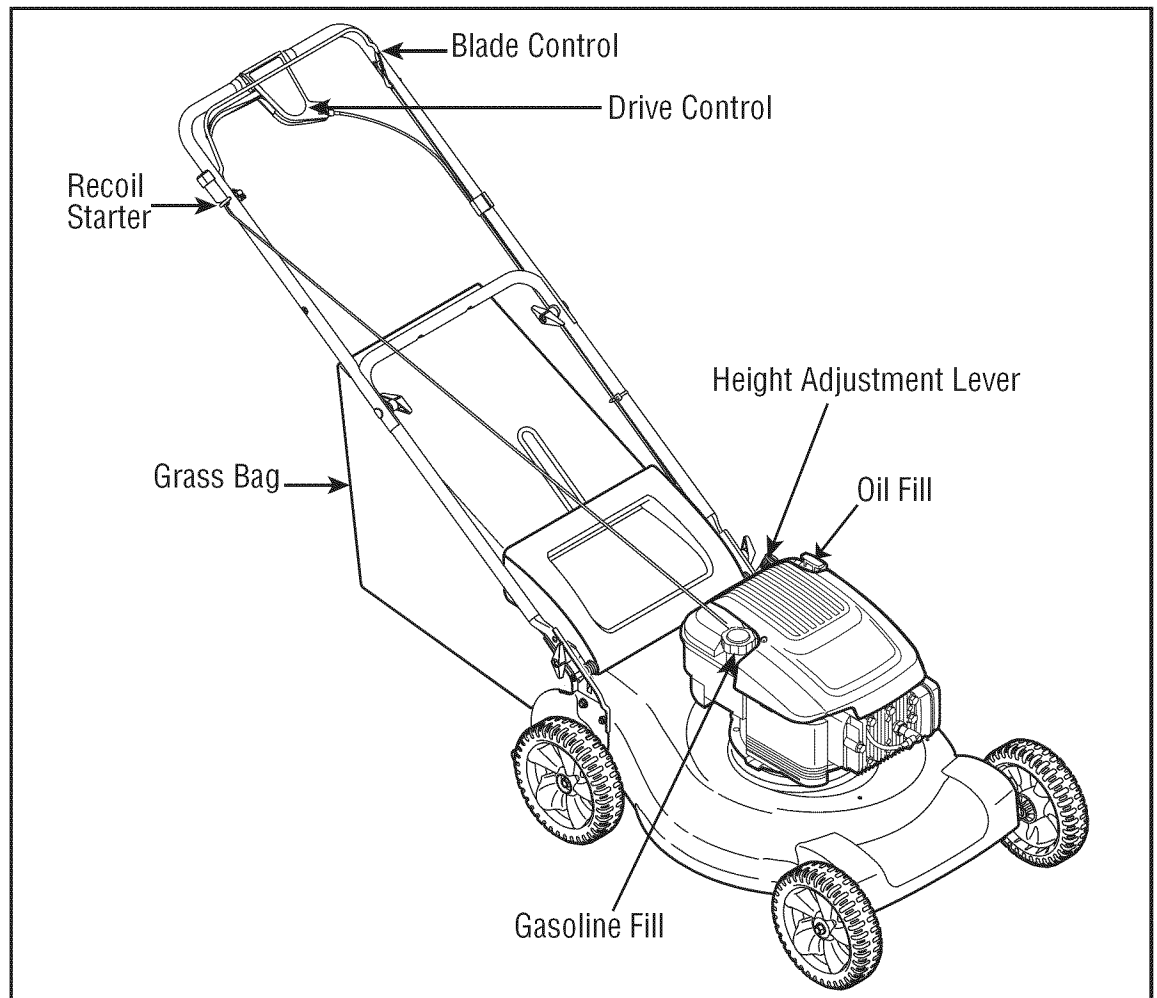

Figure 8
The drive control is located on the upper handle. Squeeze the drive control to engage the drive system. Release it to disengage the drive system. Release the drive control to slow down when approaching an obstacle, making a turn, or stopping. See Figure 8.
1. Check oil level and add oil if necessary. Follow engine manual for this. See Figure 8 above for location of the oil fill.
2. Service the engine with gasoline as instructed in the engine manual. See Figure 8 above for location of gas fill.